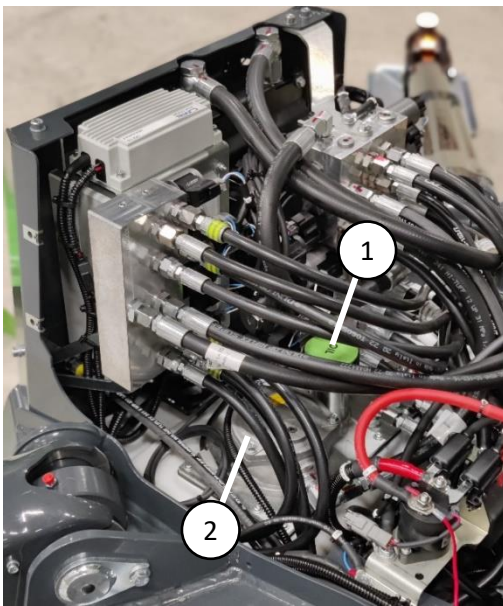

Figure 26. Hydraulic oil tank
Hydraulic oil change can be done either from the suction filter or through the hydraulic oil tank cap (figure 26 (1)) with a suction pump. The suction filter is located in the bottom of the chassis behind the service hatch (figure 27). Hydraulic oil can be drained by opening the fitting from the suction filter. The oil change volume is 35 liters.
Hydraulic oil return filter (figure 26 (2)) is located on top of the hydraulic oil tank at the rear of the chassis. The filter change is done by opening the lid of the filter case and replacing the filter cartridge with a new one. The filter cartridge is mounted with the opening facing up. After this install the lid back to the filter case. Make sure there are no leaks before installing the covers back to the machine.
Hydraulic oil level can be checked with the dipstick in the filter cap (figure 26 (1)). Oil level should be at the upper mark in the dipstick when the access platform is in transport position (booms down and outriggers completely up).